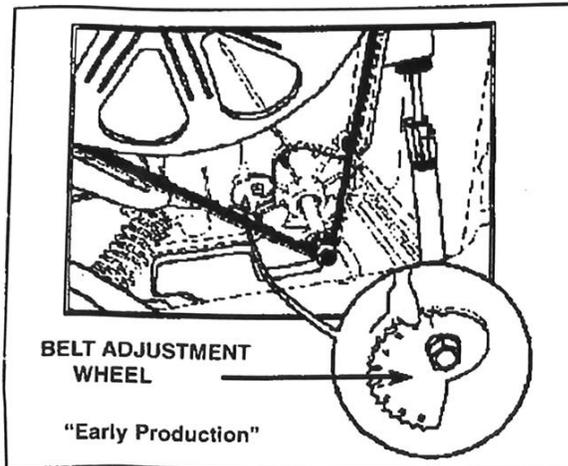

Figure 3
1. **(Earlier washers with the adjustment wheel)** Loosen the belt adjustment wheel and position the adjustment wheel to align with indicator number 1. **(See Figure 3)**. This will allow proper tensioning of the belt